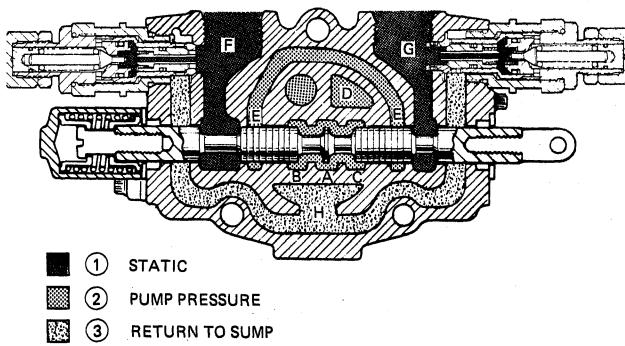

Figure 4
NEUTRAL-OPEN CENTER: Figure 4 illustrates the lift circuit valve section in the "neutral" condition. However, all other circuit sections have the same internal passages. Oil enters the control valve section through the inlet port in the inlet end cover. This pump oil, Figure 4, is diverted in the inlet end cover to the open center passages (A), (B), and (C) and also to the high pressure passage (D). The high pressure passage goes through all the valve sections and ends at the regenerative check valve in the outlet end cover. Oil flow in the opposite direction (from the outlet end cover) is possibly due to the regenerative feature which is covered on page 5. As long as the spools remain in the neutral position, oil in the high pressure passage (D) is static, but at the same pressure as system pressure.